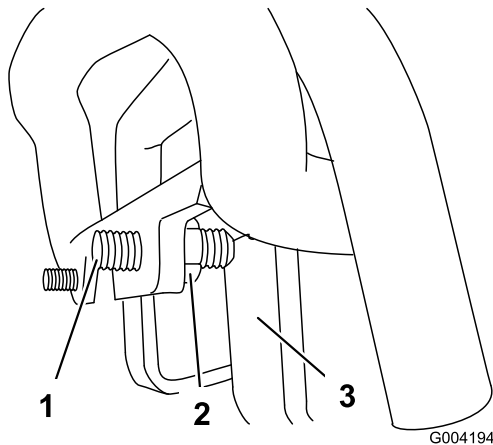

Figure 58
- 3. If the machine veers to the **left**, loosen the **right** jam nut and adjust the tracking set screw on the front of the traction control (Figure 58).
- 4. If the machine veers to the **right**, loosen the **left** jam nut and adjust the tracking set screw on the front of the traction control (Figure 58).